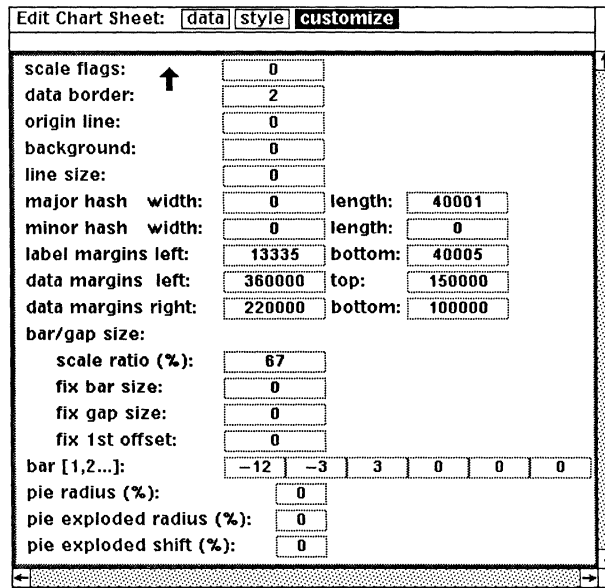

Figure 29-2. The Customize sheet
- ✓ Point the cursor at the Yes box and click the **left** button. Figure 29-2 shows the Customize sheet.